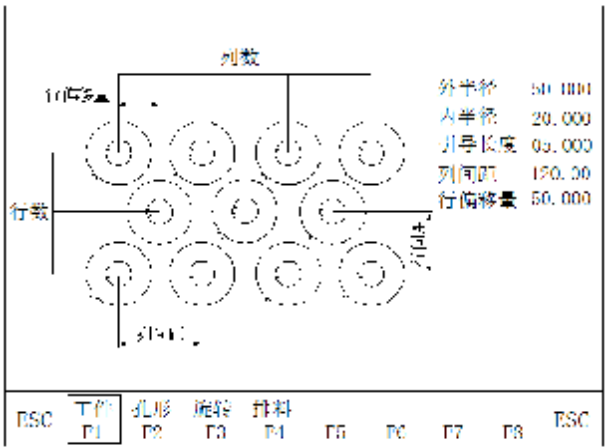

Fig. 8.3 Schematic diagram of part layout
- Row offset**----The deviation of raw misplacement, as shown in Fig. 8.3.